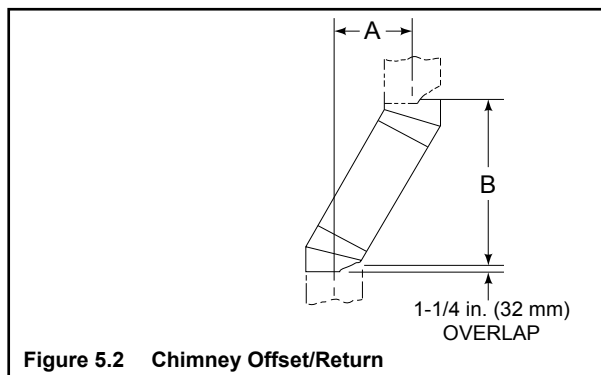

Figure 5.2 Chimney Offset/Return
- Measure the shift needed to avoid the overhead obstruction. Refer to dimension A in Figure 5.2.
Your "A" dimension from Figure 5.2 is 14-1/2 in. (368 mm). Using Table 5.3 the dimension closest to, but not less than 14-1/2 in. (368 mm) is 14-1/2 in. (368 mm) using a 30° offset/return.